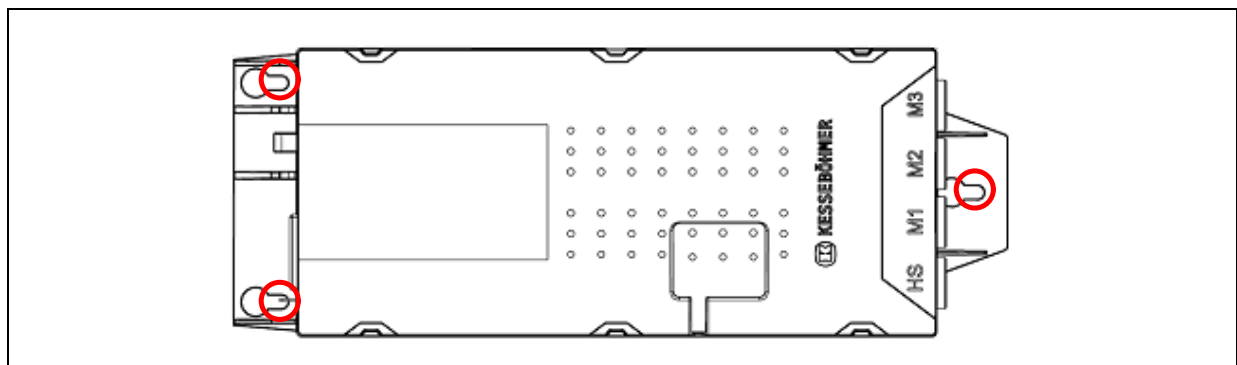

Figure 2: Step 2
2. Mark the drill holes with a pencil (See Figure 2: use the areas with the smaller diameter).
6. Slide the control unit to the body stop of the 3 holes with the smaller diameter (See Figure 2).